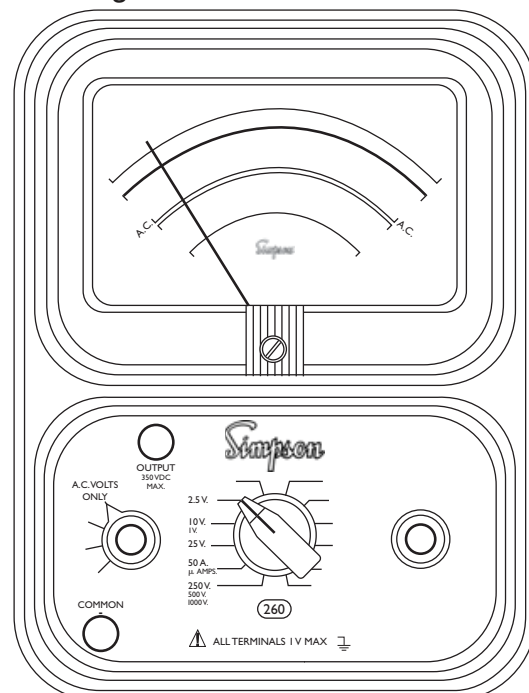

FIGURE 4-9. Jacks and Switch Positions for Output Measurements
- a. Set the function switch to AC volts only position (Figure 4-9).